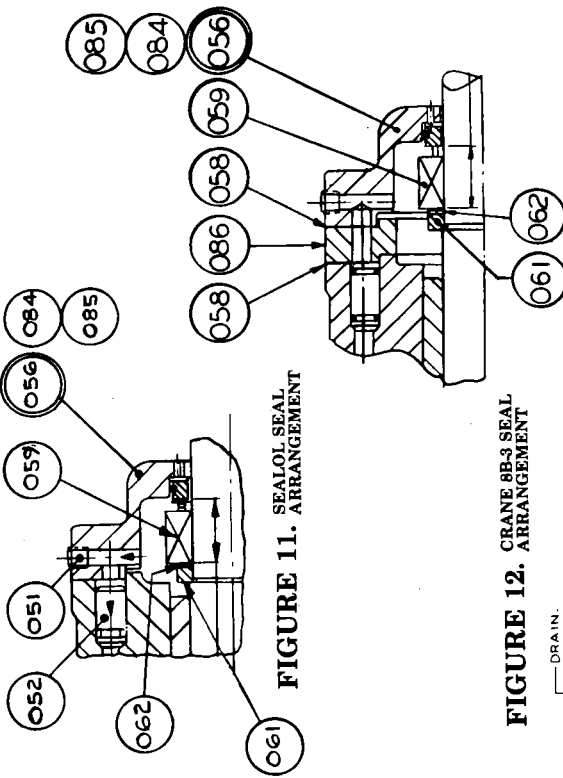

FIGURE 12. CRANE 8B-3 SEAL ARRANGEMENT
(1) Minor Repair Kit Items.
(2) Major Repair Kit Items. Items marked (1) are also included in Major Repair Kit.
(3) Quantity of item 003 is 16 for pumps with mechanical seals.
(4) Figure 12 part description — Spacer.